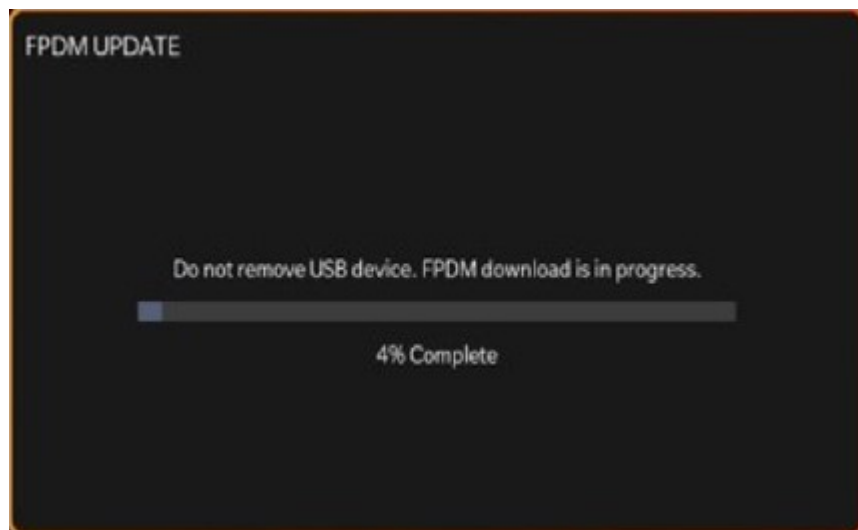
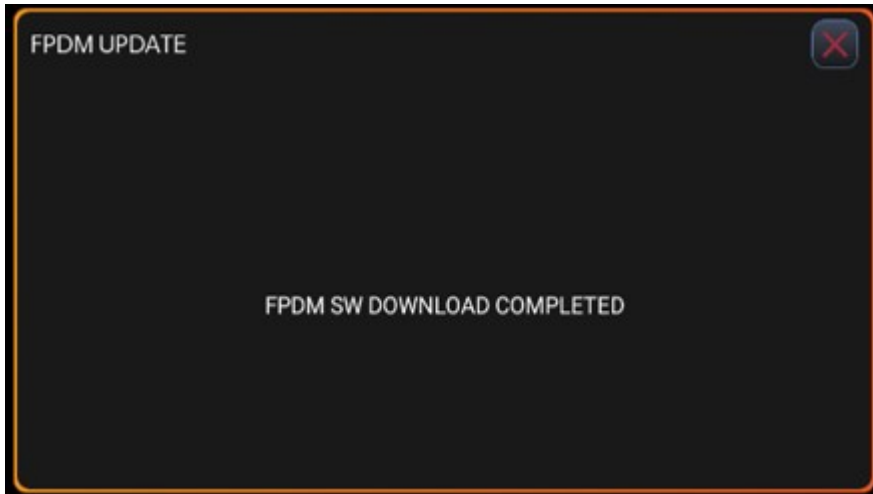

Fig. 5
Fig. 6
13. The FPDM screen will turn off and begin software download (Fig. 5) , (Fig. 6) .